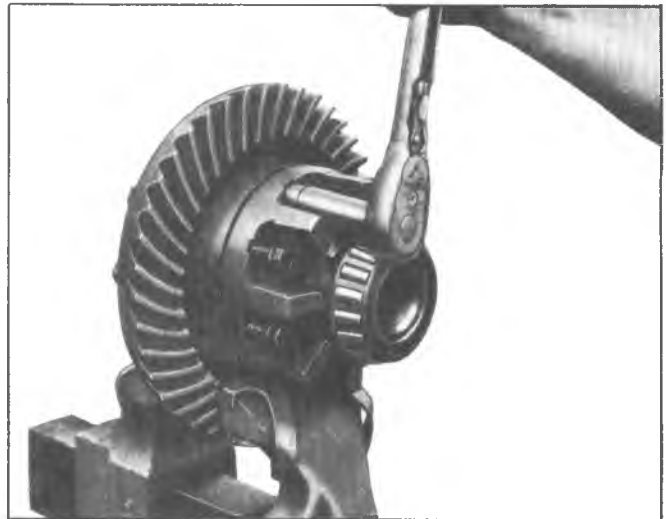

Fig. 3F—Separating Case Halves
4. Remove bolts holding case halves together, as shown in figure 3F.